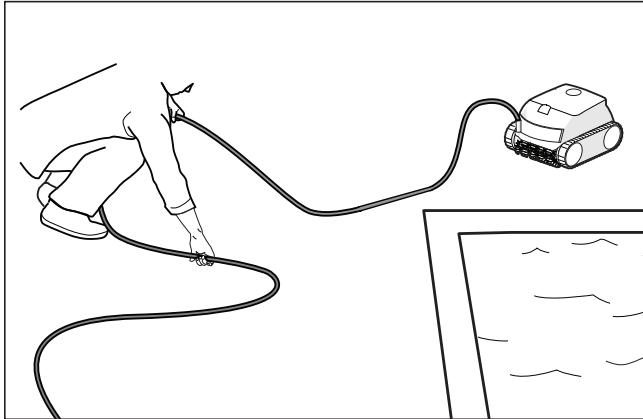

Figure 10. Untangle the power cable
4. Remove the cleaner from the pool and untangle all kinks and coils in the power cable. Start at the cleaner head. Lay the cable in the sun to loosen any tangling memory (Figure 10).